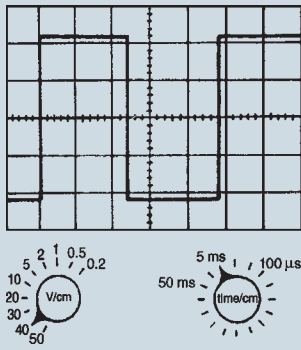

Figure 12.20
- For the square voltage waveform displayed on an oscilloscope shown in Fig. 12.20, find (a) its frequency, (b) its peak-to-peak voltage.